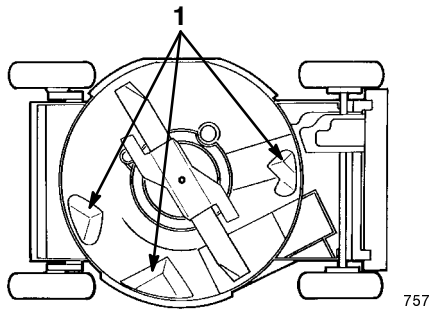

Figure 16
To ensure the best performance, keep the underside of the lawn mower housing clean. Be especially careful to keep the kickers free of debris (Fig. 16).
3. Tip the lawn mower onto its **right** side (air filter up) (Fig. 16).